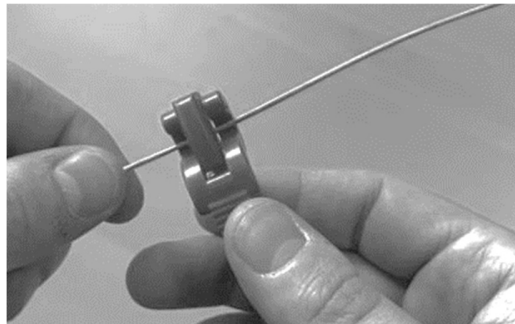

Figure 30 . Score the buffer tube
5.19 Use a buffer tube stripper to score the buffer tube (Figure 30). Make only **one** revolution around the tube. The tube should be scored rather than cut.